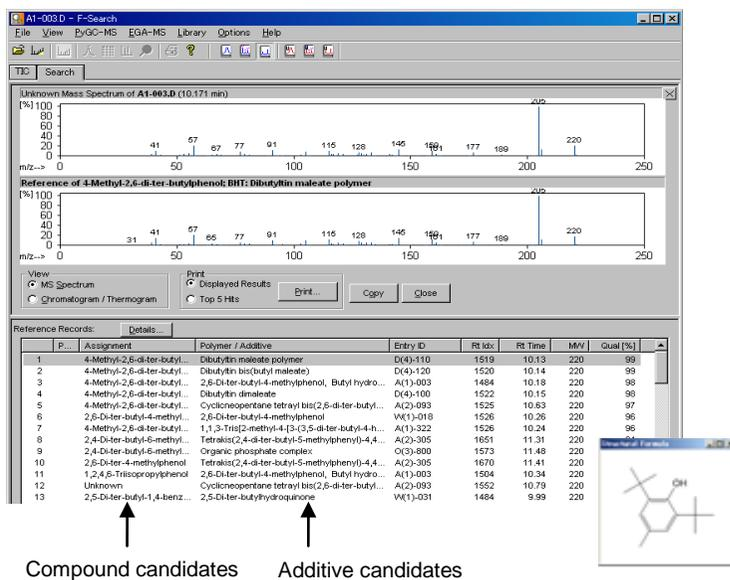

Fig. 5-26 Results of additives search against Py-GC/MS data
- (1) Open the mass spectral data file of interest.
- (2) Select a library file. Normally ADD-MS16B.fl is selected.
- (3) A mass spectrum is created from a total ion chromatogram which is then compared to spectra in the library. This is done by double-clicking the right-mouse button on the apex of a peak (see section 5.1.3), or by dragging the right-mouse button which selects the peaks over the desired time interval (see section 5.1.4). The mass spectrum of the single peak or the average mass spectrum is displayed at the bottom of the window.
- (4) Double clicking the right-mouse button in a mass spectrum window initiates the library search, and search results are displayed as shown in Fig. 5-26. When using ADD-MS library, the molecular structure of selected candidate is shown in a small window as shown below.